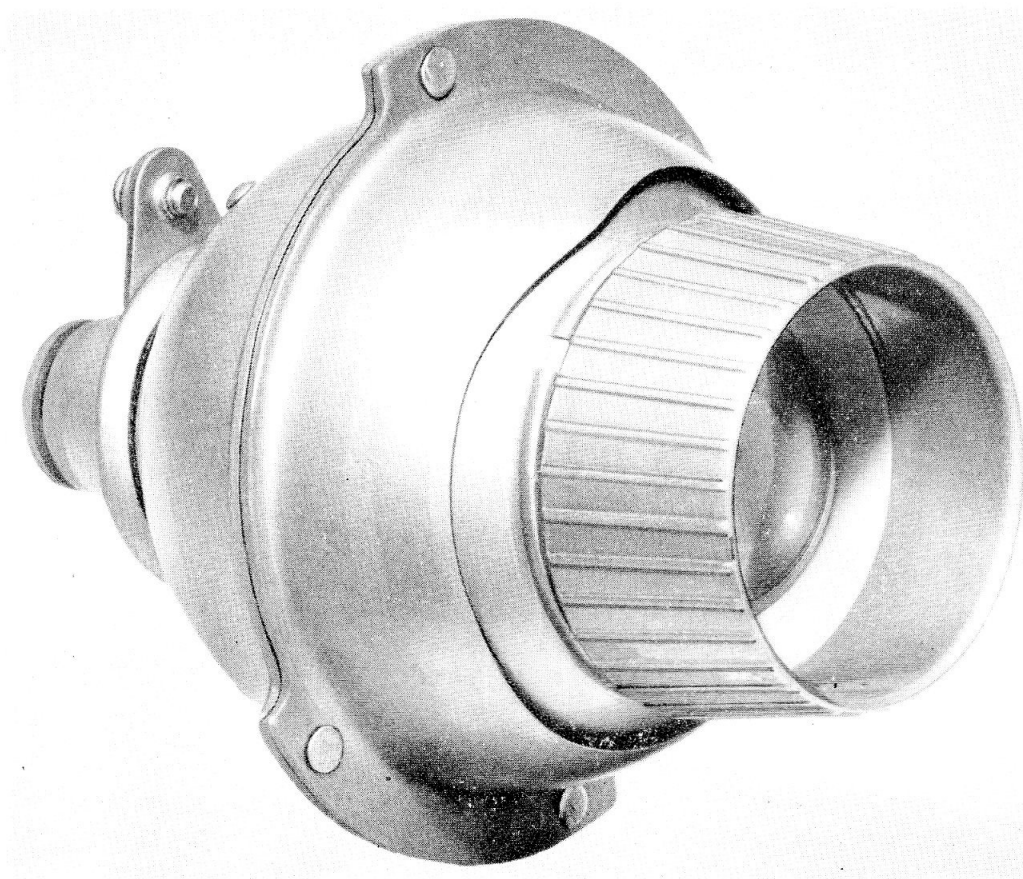

Fig. 1. Adjustable reading lamp, Thorn Type 80/10/0240
2. The lamp, which is shown in fig. 1, is housed in a suitable 2.4 in. diameter flanged hole, a dished clamp ring (not shown) is then fitted over the rear of the lamp unit and secured to the airframe or panel by two 2B.A. bolts. The clamp ring has three leaf springs